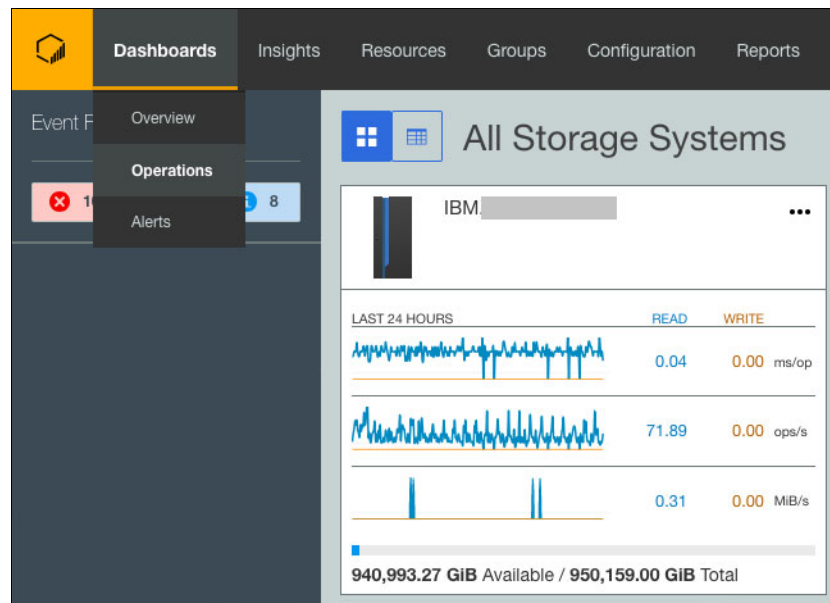

Figure 15-6 System distribution ready
- After the connections are ready, your system displays in Dashboard/Operations, as shown in Figure 15-6.